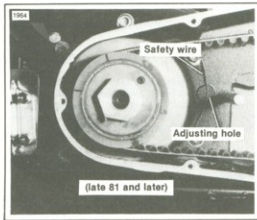

Figure 6-11. Safety Wire
2. See Figure 6-11. Cut and remove safety wire, loosen four 5/16 in. dia. bolts securing primary case to crankcase.
6. See Figure 6-11. Install a new safety wire through inside bolts.